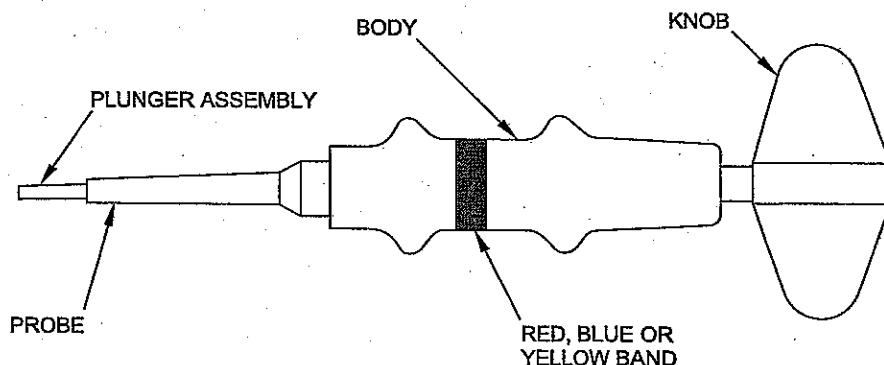

Fig 1: Unwired contact removal tool
3.1 The tool (Fig 1) consists of a body/plunger assembly and three removable plastic probes.